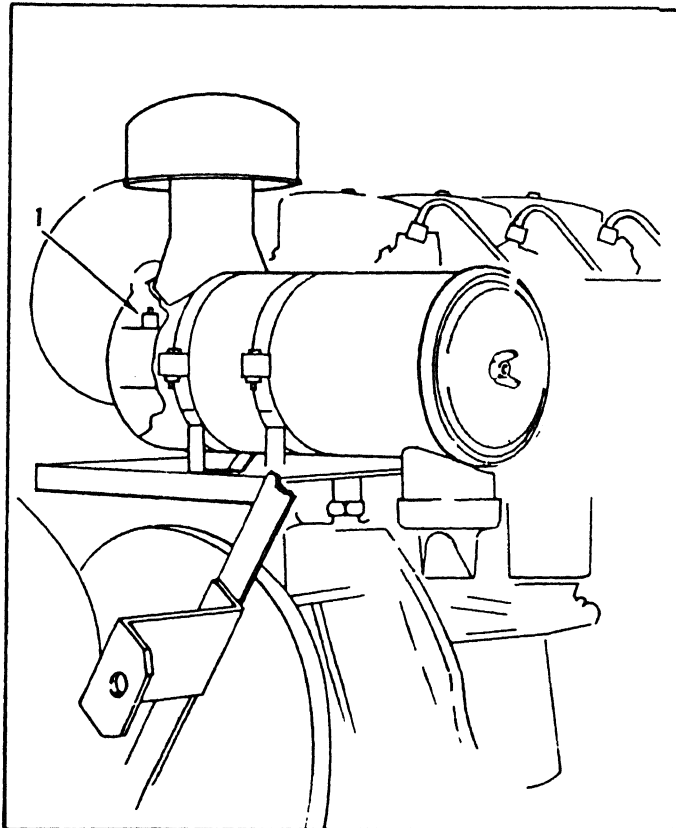

Figure 3-2. Inspecting Air Cleaner
3-4. AIR CLEANER (figure 3-2). Dust in combustion air can cause premature wear of engine. Maintenance of air cleaner is therefore essential to ensure long life. The air cleaner must be replaced when indicator (1) keeps displaying red warning signal when engine is shut down. Another indication that cartridge needs replacing is a smoking exhaust and decreasing engine output. Report any of these conditions to organizational maintenance for replacement of air cleaner elements.